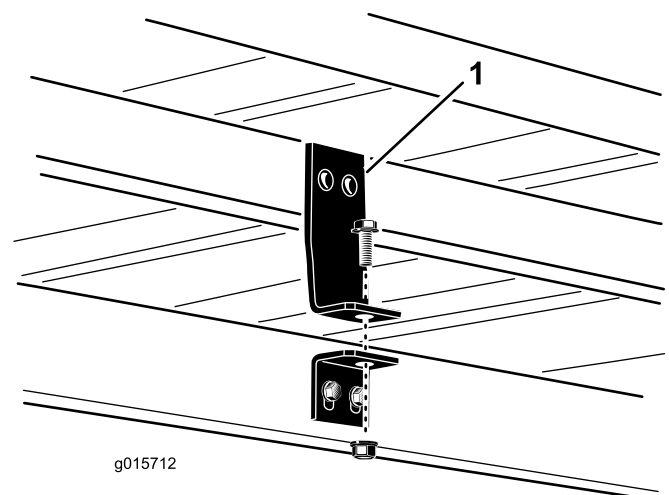

Figure 24
1. On each side of the machine, remove the flange head bolt and flange nut securing the bed mounting bracket to the frame bracket (Figure 24).
2. On each side of the machine, secure the bed mounting bracket to the frame bracket with the flange head bolt and flange nut previously removed (Figure 24)